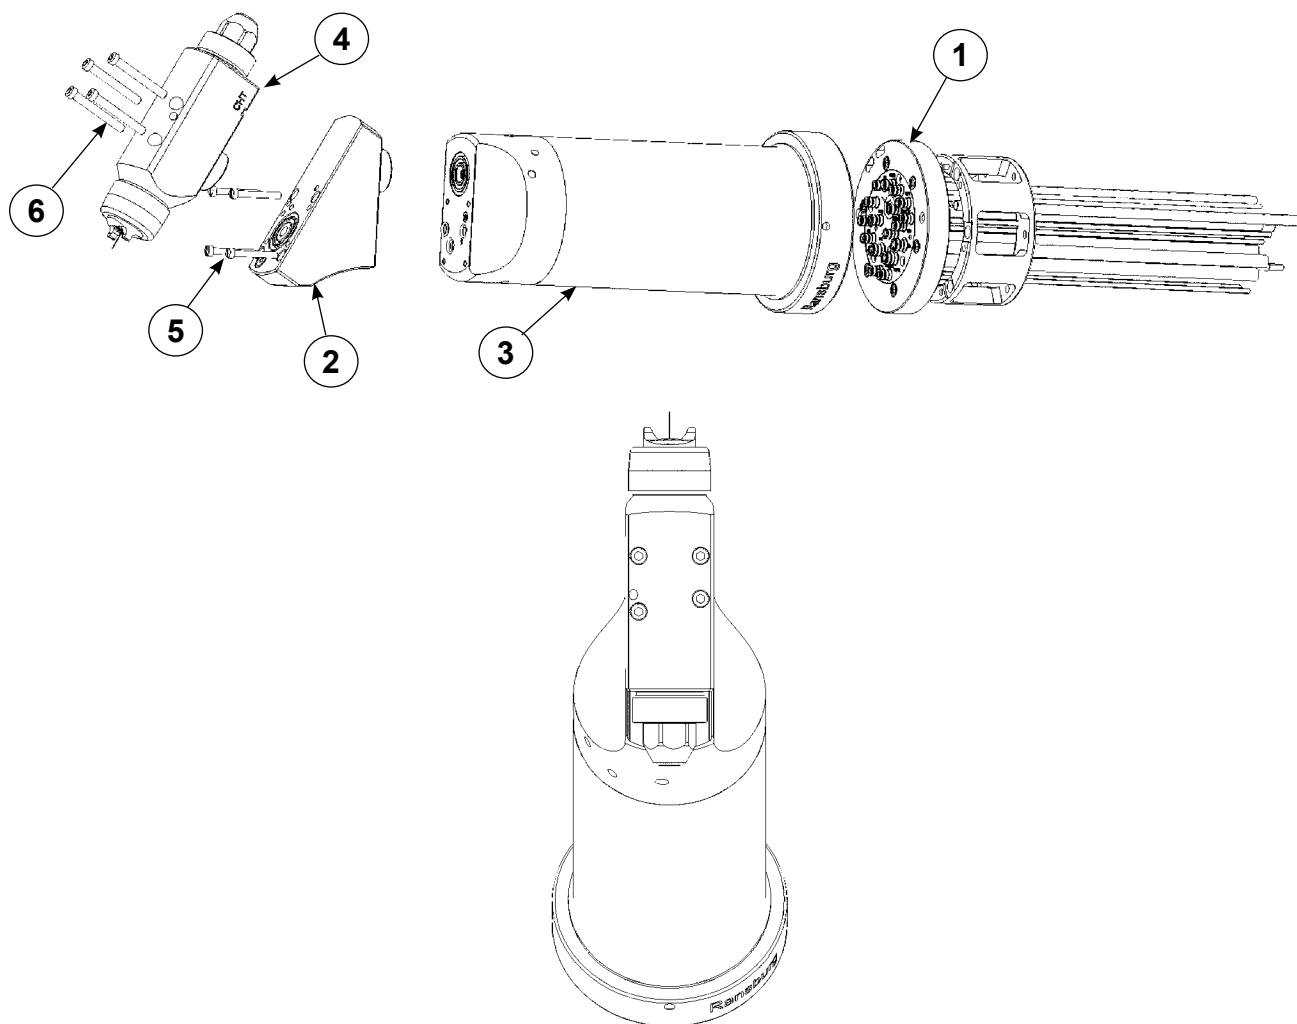

Figure 17: Evolver 500 Series Dual Purge 60° Single Head Applicator Assembly
Removing Spray Applicator From The Rear Manifold Assembly (See Figure 17)
4. Remove applicator from robot by turning the retaining ring [6] counter-clockwise from the manifold robot mounting plate [2] (**see Figure 17**).
5. Remove spray head [5] (**Figure 17**) as previously described in **Figure 13a**.
Spray Applicator Disassembly (See Figures 17, 18, and 19)
6. Remove the four (4) screws [7] from mounting block [3] and pull the block out of the upper manifold [4] as shown in **Figure 17**.
EVOLVER 500 SERIES DUAL PURGE 60° SINGLE HEAD APPLICATOR ASSEMBLY - PARTS LIST (Figure 17)